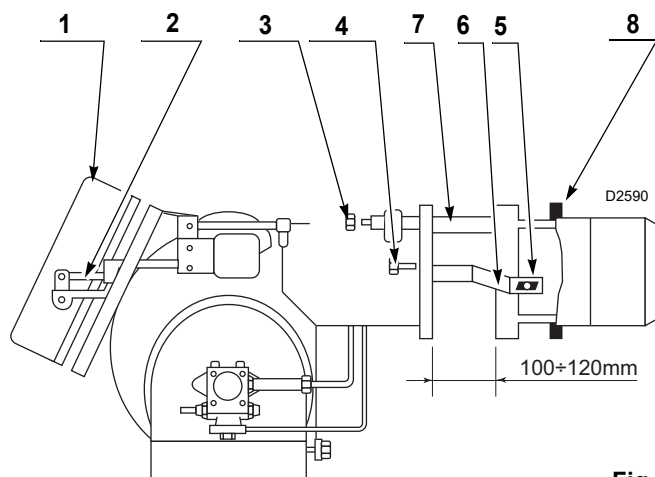

Fig. 9
- remove the cover 1)(Fig. 9), the split pin and pin 2), the nuts 3) and the screws 4).